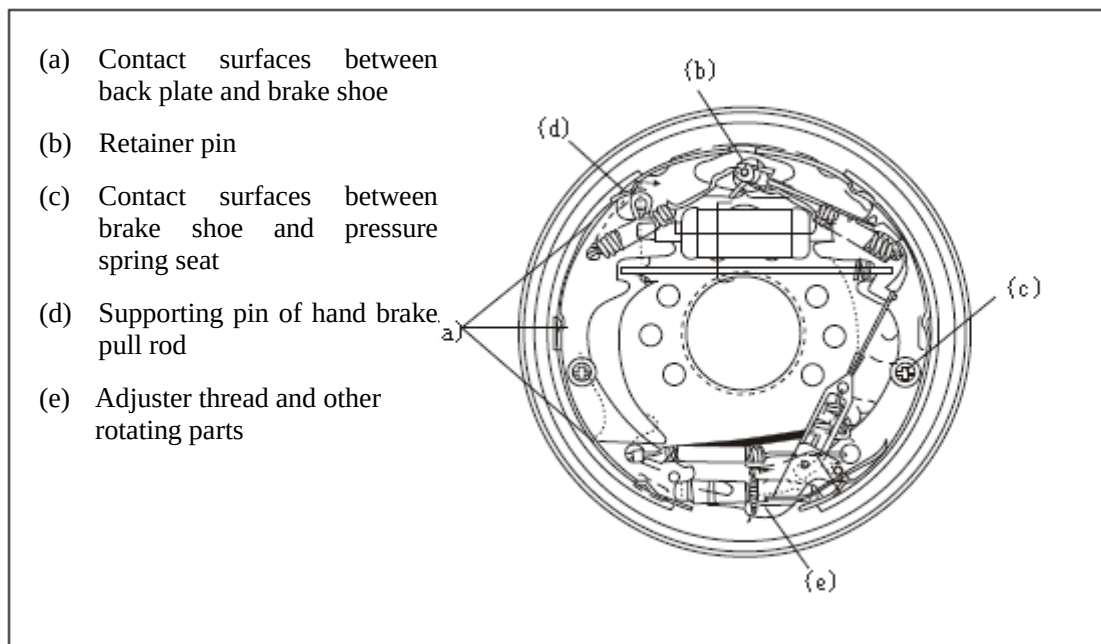

Fig. 2-22
- (1) Apply brake fluid to the wheel cylinder cup and piston. Then, assemble the spring, piston cup, piston and dust-proof ring orderly.
- (2) Install the wheel cylinder on the back plate.
- (3) Install the back plate onto the driving axle.
- (4) Add heat-resistant lubricating oil to the lubrication points shown in Fig. 2-22.